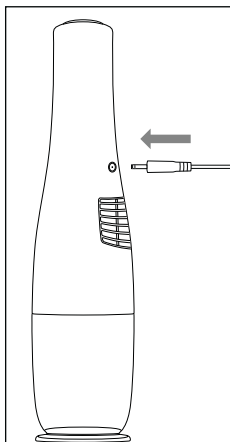

Fig. 1
- ◆ Connect the barrel plug **10** of the mains adapter **11** to the charging socket **8** on the underside of appliance (see Fig. 1). Plug the mains plug of the mains adapter **11** into the socket. The charge indicator lamp **6** starts flashing blue and the charging process begins.